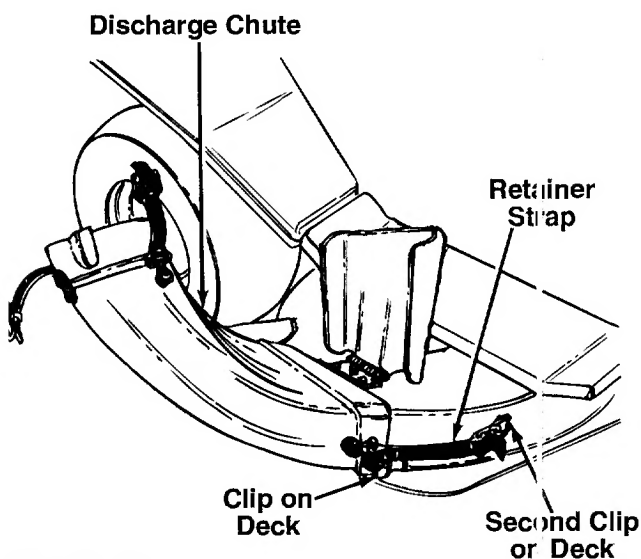

FIGURE 13.
1. Raise the deck to its highest position. Raise the chute deflector on the deck. Place the top edge of discharge chute in position over the chute opening on the deck, then push down on discharge chute so the front edge locks into clip on deck. See figure 13.